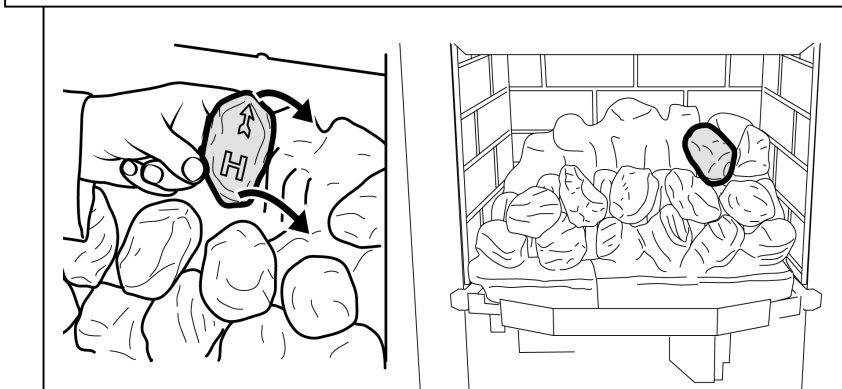

Figure 40. Third row "Coal H"
17. Hold coal 'H' upright with the arrow pointing to the top. Locate coal 'H' as shown in figure 40